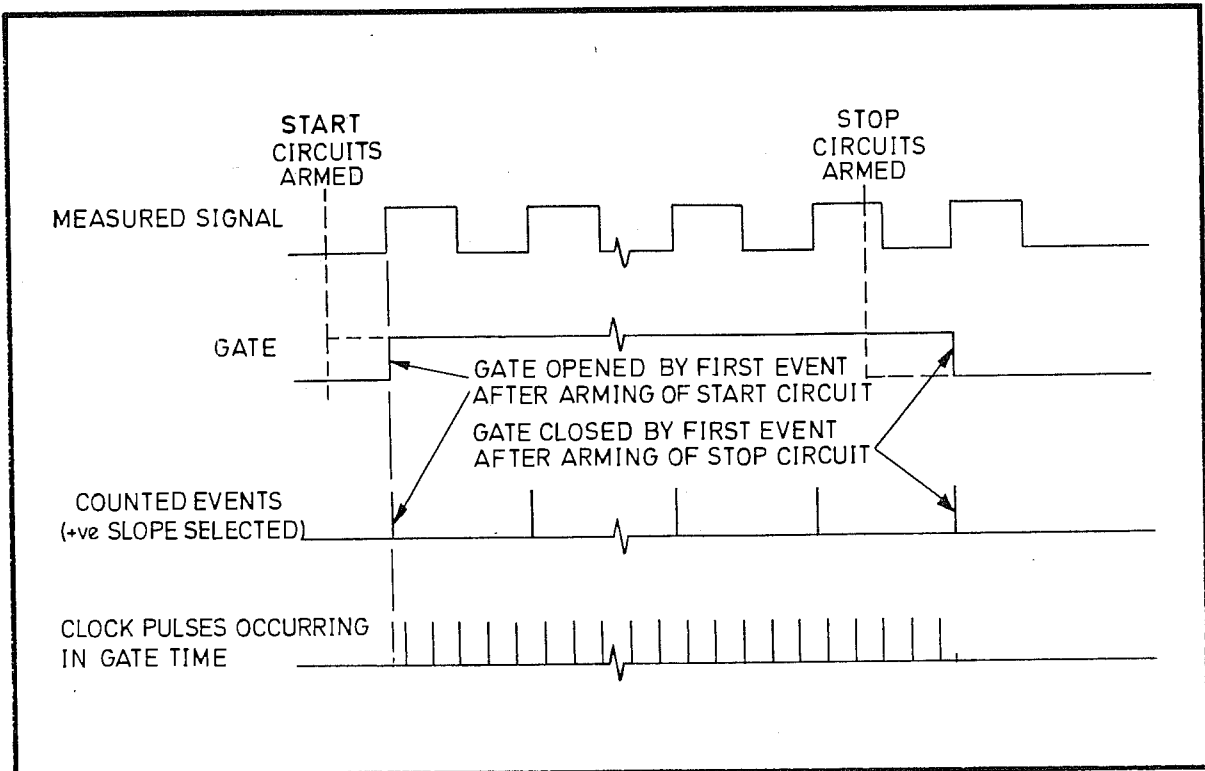

Fig 6.4 Basic Recipromatic Counting Technique
- 28 The circuits within MCC1 and MCC2 are configured by the microprocessor according to the measurement function in use. The recipromatic counting technique is used. With this technique the measured signal, not the counter clock pulses, controls the start and stop of the measurement period (gate time) as shown in Fig 6.4. The gate time therefore extends over an integral number of cycles of the measured waveform. The gate time is measured by counting the clock pulses which occur while the gate is open.